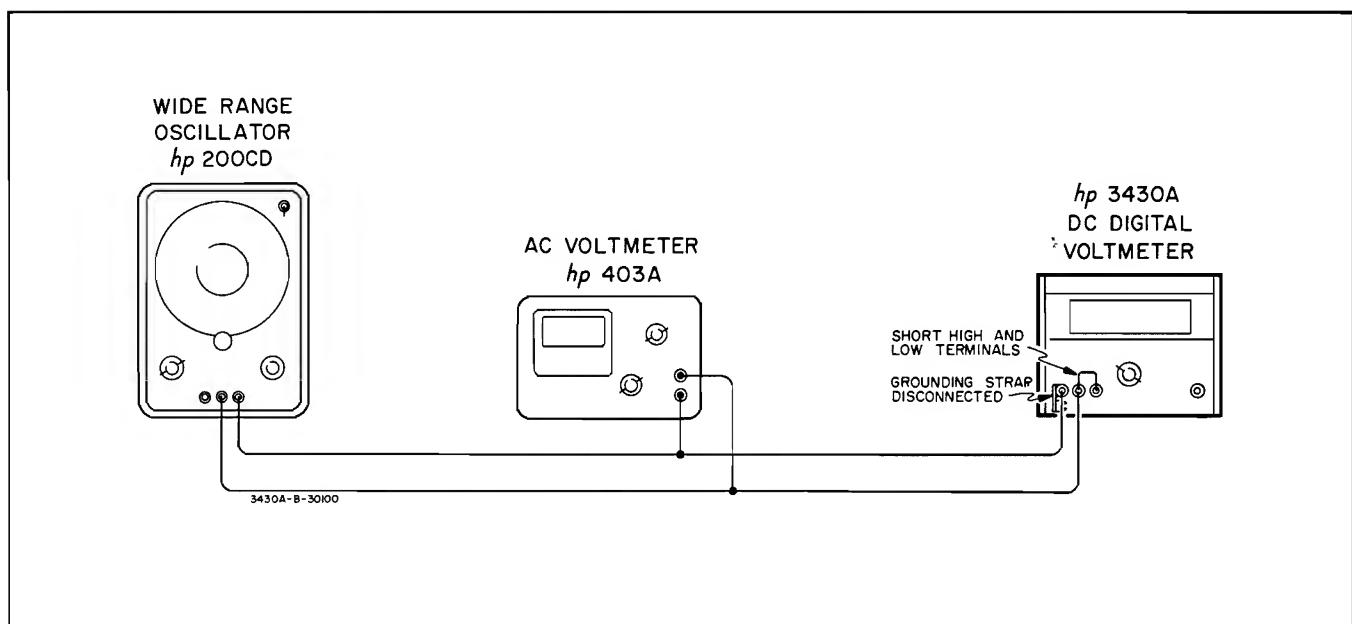

Figure 5-5. AC Common Mode Rejection Check
- Connect the 3430A as shown in Figure 5-5.